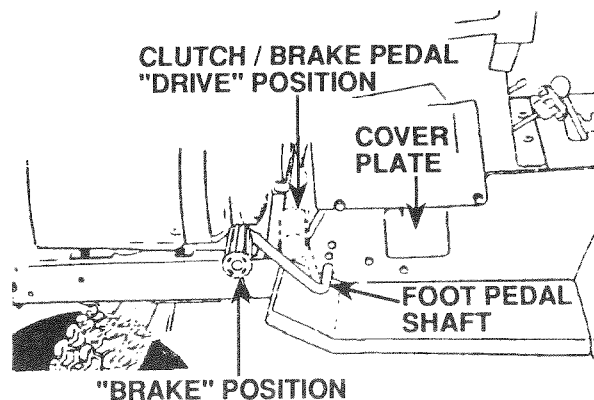

FIGURE 12
- Push Clutch/Brake Pedal into full "BRAKE" position (Fig. 12).
- Push Clutch/Brake Pedal fully into Brake position (Fig. 12).
- d. Release Clutch/Brake Pedal SLOWLY to start movement (Fig. 12).